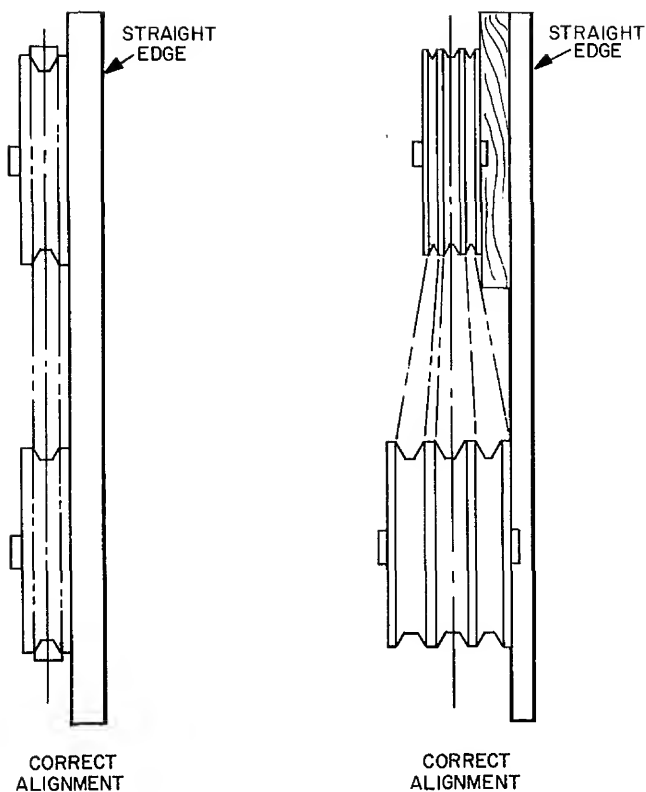

Fig. 3 – Sheave Alignment
4. Replace sheave in reverse order. Tighten allen setscrew securely. Lightly grease motor shaft before replacing sheave. Remove all dirt and burrs from motor shaft end and key. Check alignment of fan motor sheave with fan shaft sheave. Correct by loosening motor hold-down bolts and shifting motor as required. Tighten motor hold-down bolts securely. Refer to Fig. 3.
5. Replace sheave in reverse order. Tighten locking screws securely. Lightly grease fan shaft end before replacing sheave. Remove all dirt and burrs from fan shaft end. Check alignment of fan motor sheave with fan shaft sheave. Correct by loosening motor hold-down bolts and shifting motor as required. Tighten motor hold-down bolts securely. Refer to Fig. 3.